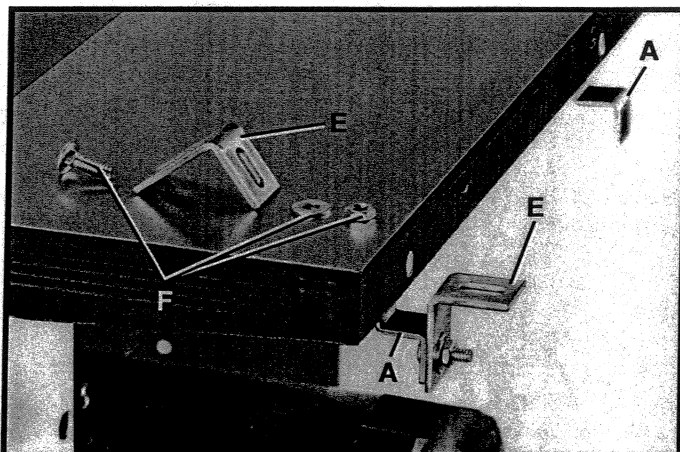
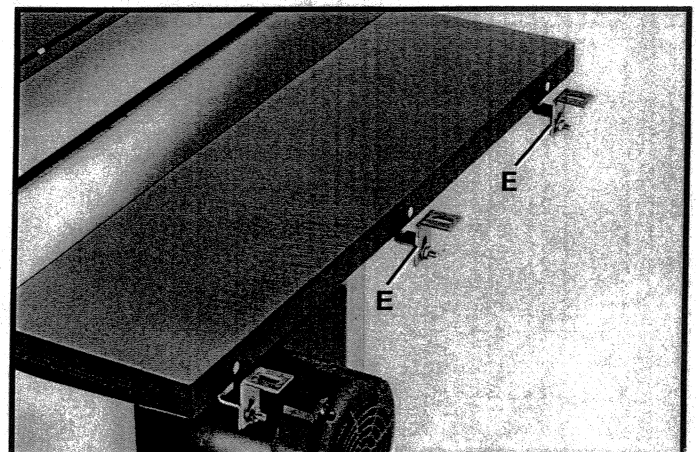

Fig. 18
Fig. 19
3. Assemble three angle brackets (E) Fig. 18, onto Z-brackets (A), two of which are shown, using three 1/4-20 x 3/4" carriage bolts, flat washers, and hex nuts (F). **IMPORTANT:** The longer leg of angle brackets (E) Fig. 19, must be secured to Z-brackets (A). **NOTE:** Do not tighten hardware at this time.